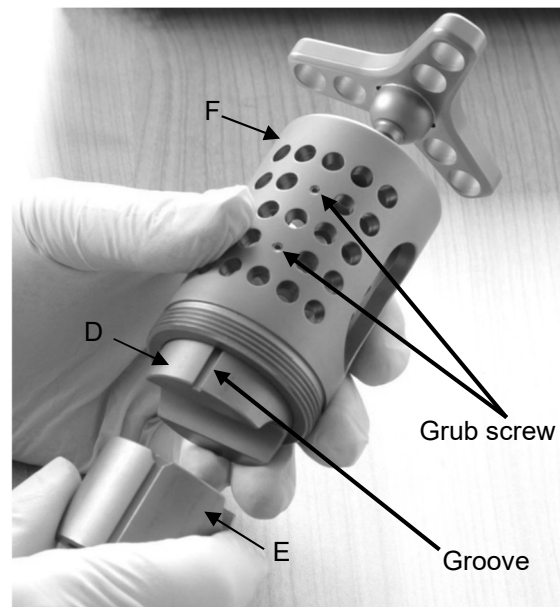

Fig. 8
First insert the outer (D) and then the inner (E) clamping jaw into the clamping cylinder (Fig. 8). Ensure that the groove of the clamping jaws is pushed over the two small grub screws protruding from the inner wall of the clamping cylinder (F). These serve as anti-rotation protection.